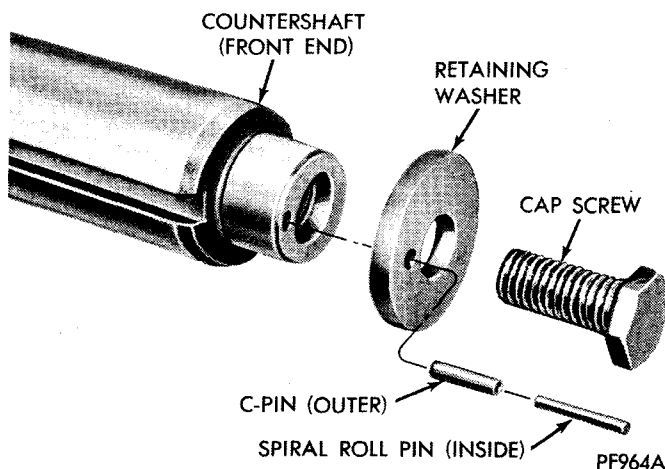

Fig. 10—Countershaft Front Bearing Retainer
(3) Place front bearing retainer washer into position, with large roll pin through it and in corresponding hole in countershaft. Install a 5/8 inch cap screw, tighten to 100-135 foot pounds (Fig. 10). Install smaller spiral lock pin into roll pin leaving lock pin protruding approximately one-half screw head thickness to prevent screw from backing out.